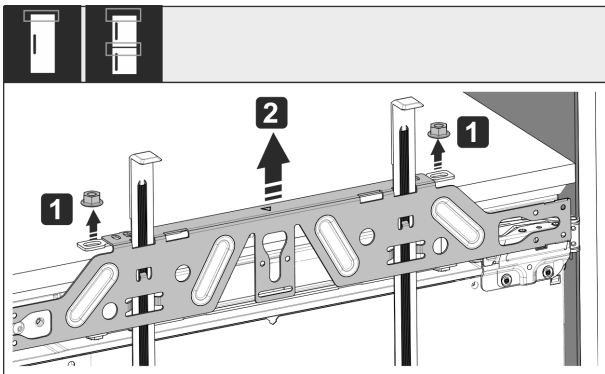

Fig. 51
- ▶ Loosen locknuts Fig. 51 (1).
- ▶ Remove crosspiece Fig. 51 (2).